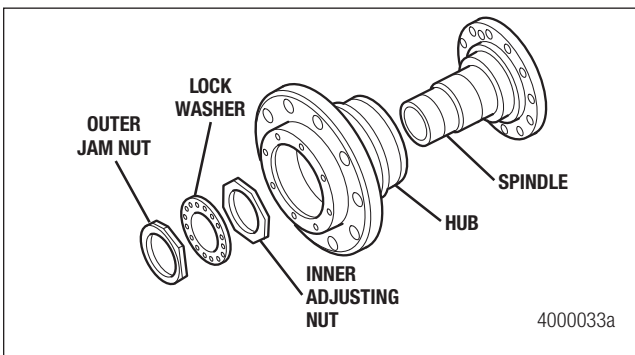
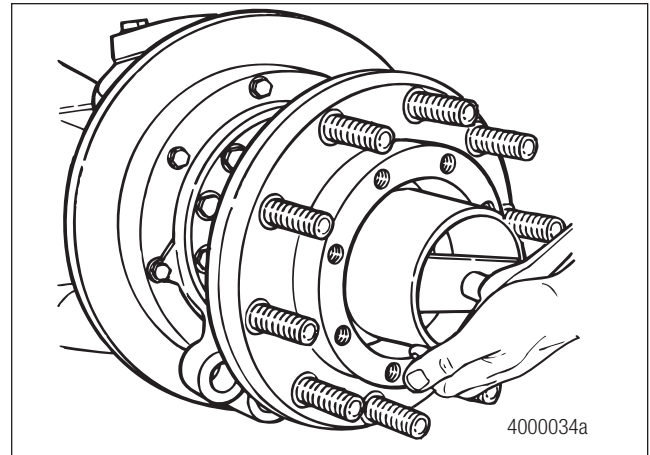

Figure 4.8
Figure 4.9
5. Remove the jam nut, lock washer and the inner adjusting nut from the spindle. Figure 4.8. Use a 4-7/8-inch socket wrench to remove the adjusting nut. Figure 4.9.